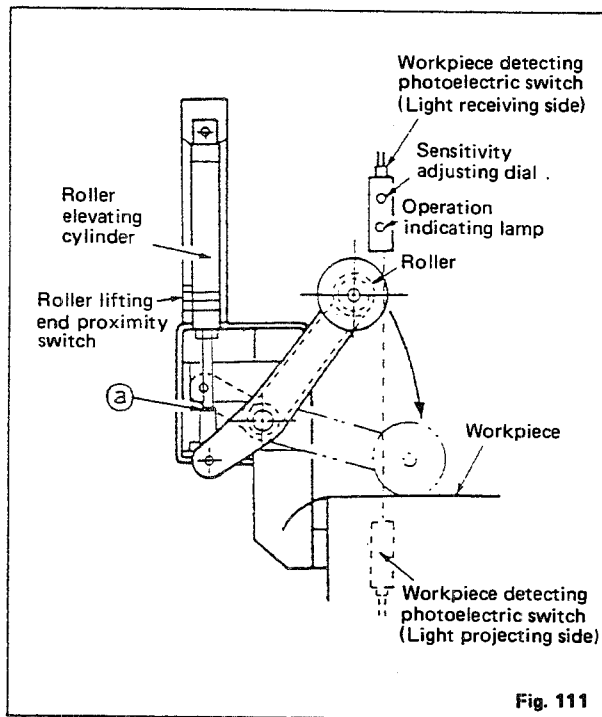

Fig. 111
1. Adjust the position of flap clamps (A) and (B) as shown in Fig. 111, so that the distance between the center of the needle and the contact point of flap clamps (A) and (B) is 6.5 mm (adjust by loosening locknut (a) at the connector point of the flap rocking cylinder illustrated in Fig. 115 and the height of the center of flap clamps (A) and (B) is 20 ± 0.5 mm (adjust by the fixing oval hole (b)) from the surface side of the machine table.